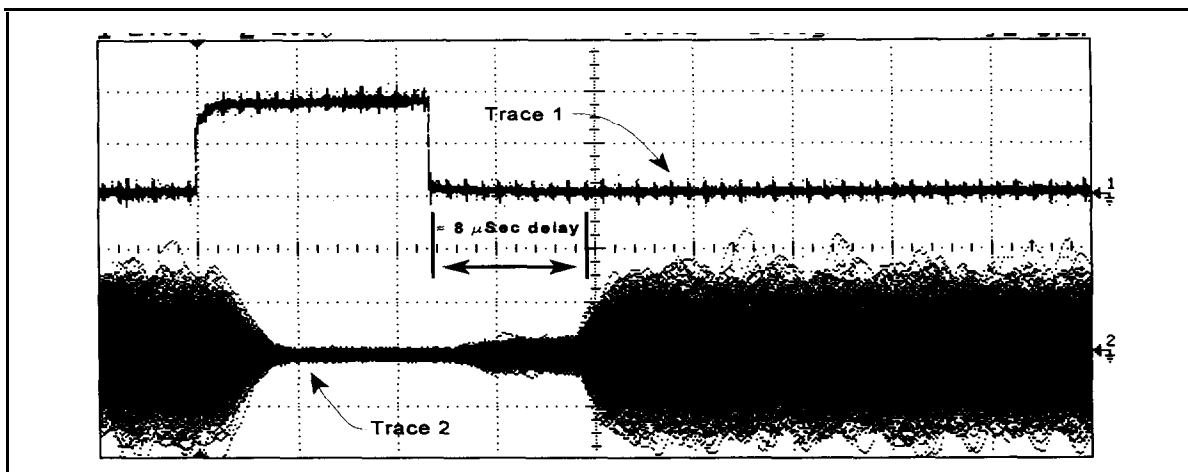

**Figure 4 Accessing the T/R Switch Trigger Pulse Inside the Signal Processor for the STC Alignment Procedure.**
3. Connect a probe to channel one of the oscilloscope. Unscrew the grabber-tip from the probe to expose the pointed tip. Locate J3 pin 2 inside the rear panel of the signal processor. Insert the scope probe into pin 2 of connector J3 as shown in Figure 4.